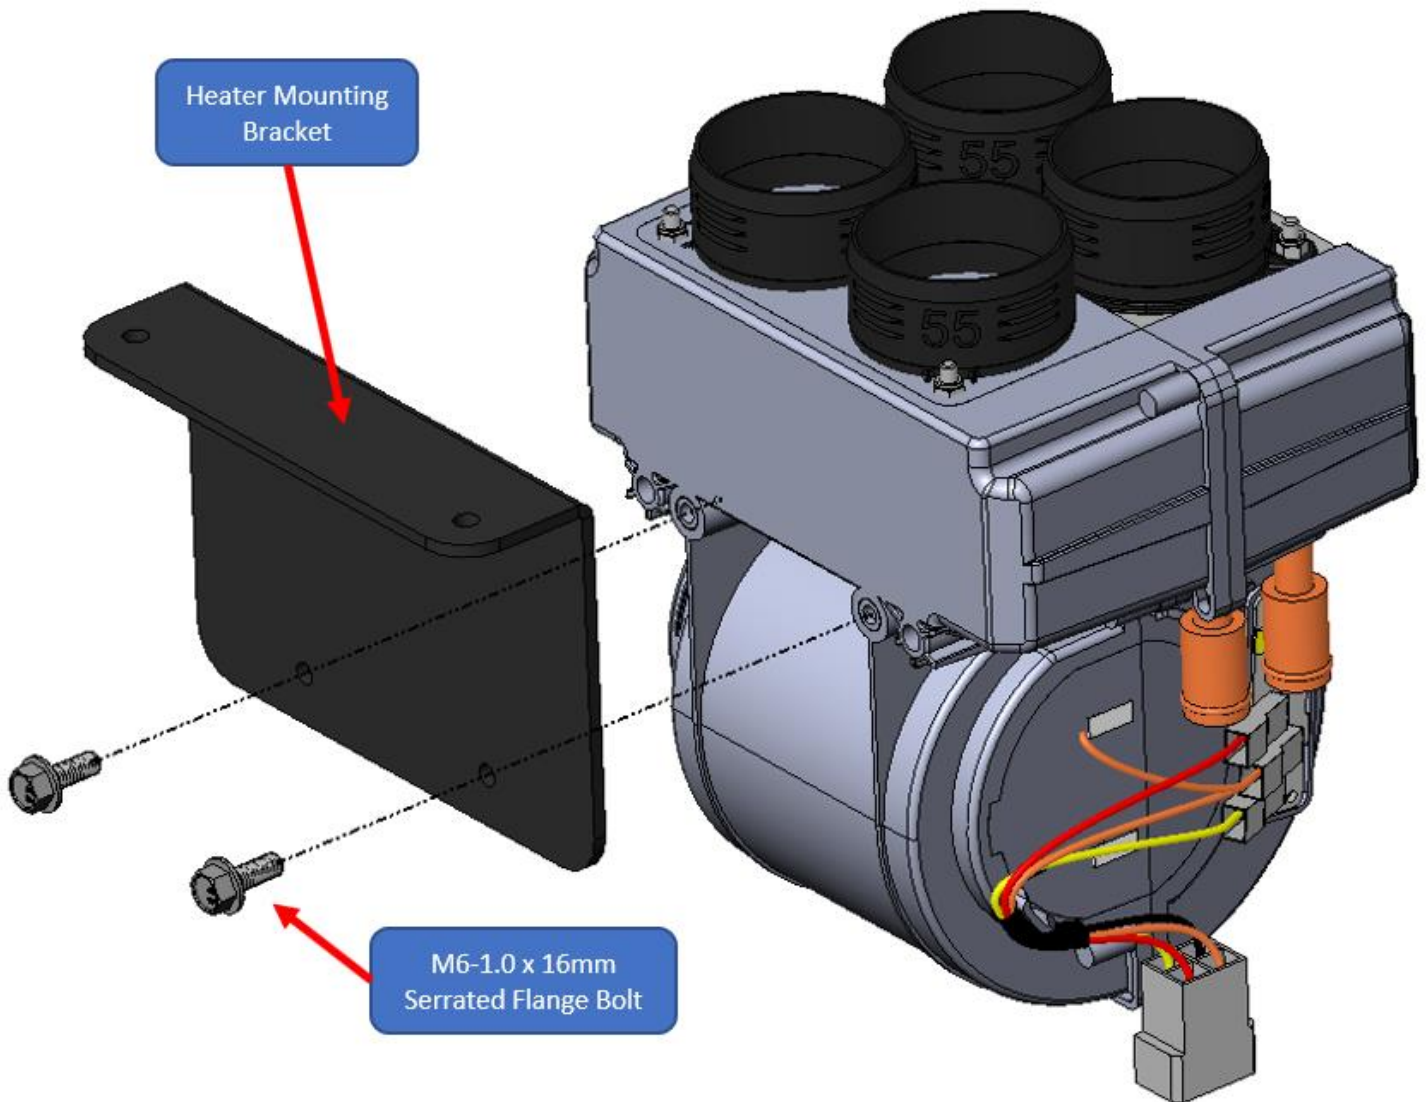

Figure 9
7. Mount the Heater unit to the right-angle heater bracket as shown in Figure 9.